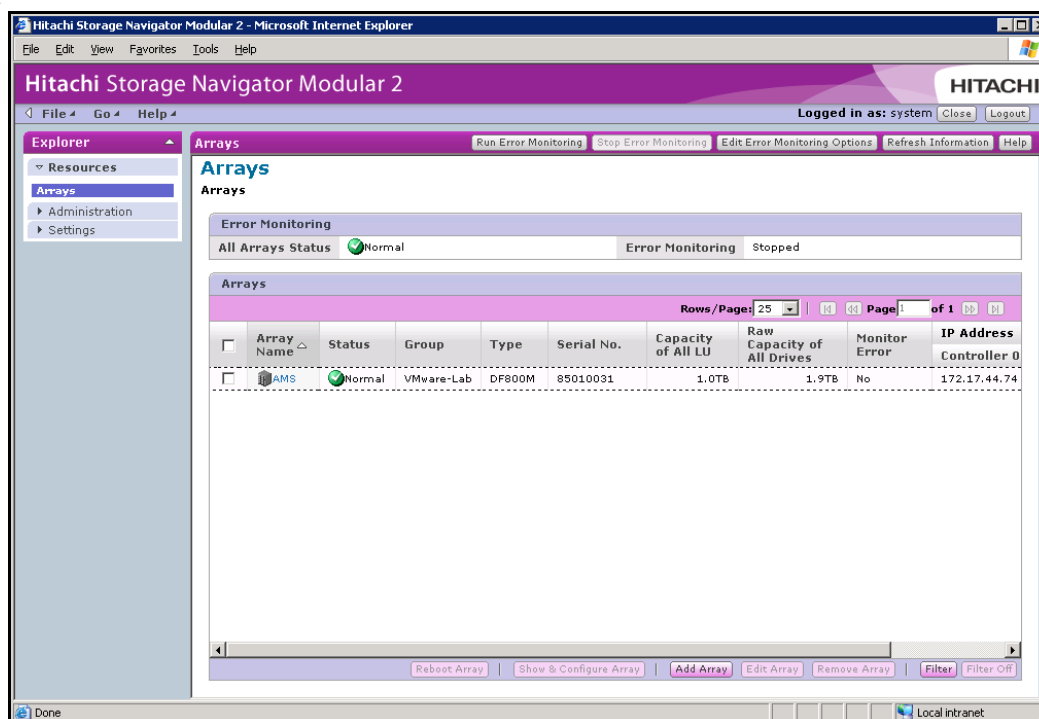

Figure 4-2: Example of an Arrays List Window
3. Click the **Login** button. An Arrays List window similar to the one in Figure 4-2 on page 4-6 appears.